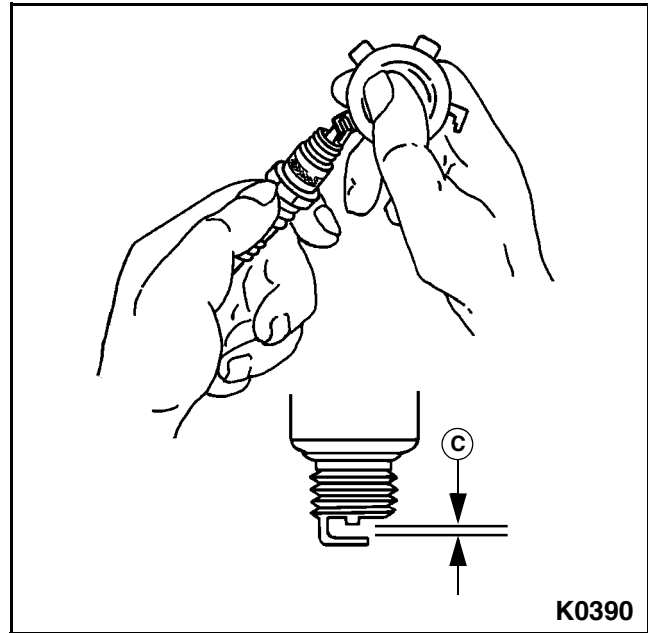

Figure 5-21
8. Use a spark plug gap tool to measure the gap (C) on each spark plug. Adjust the gap to specification. See Figure 5-21.